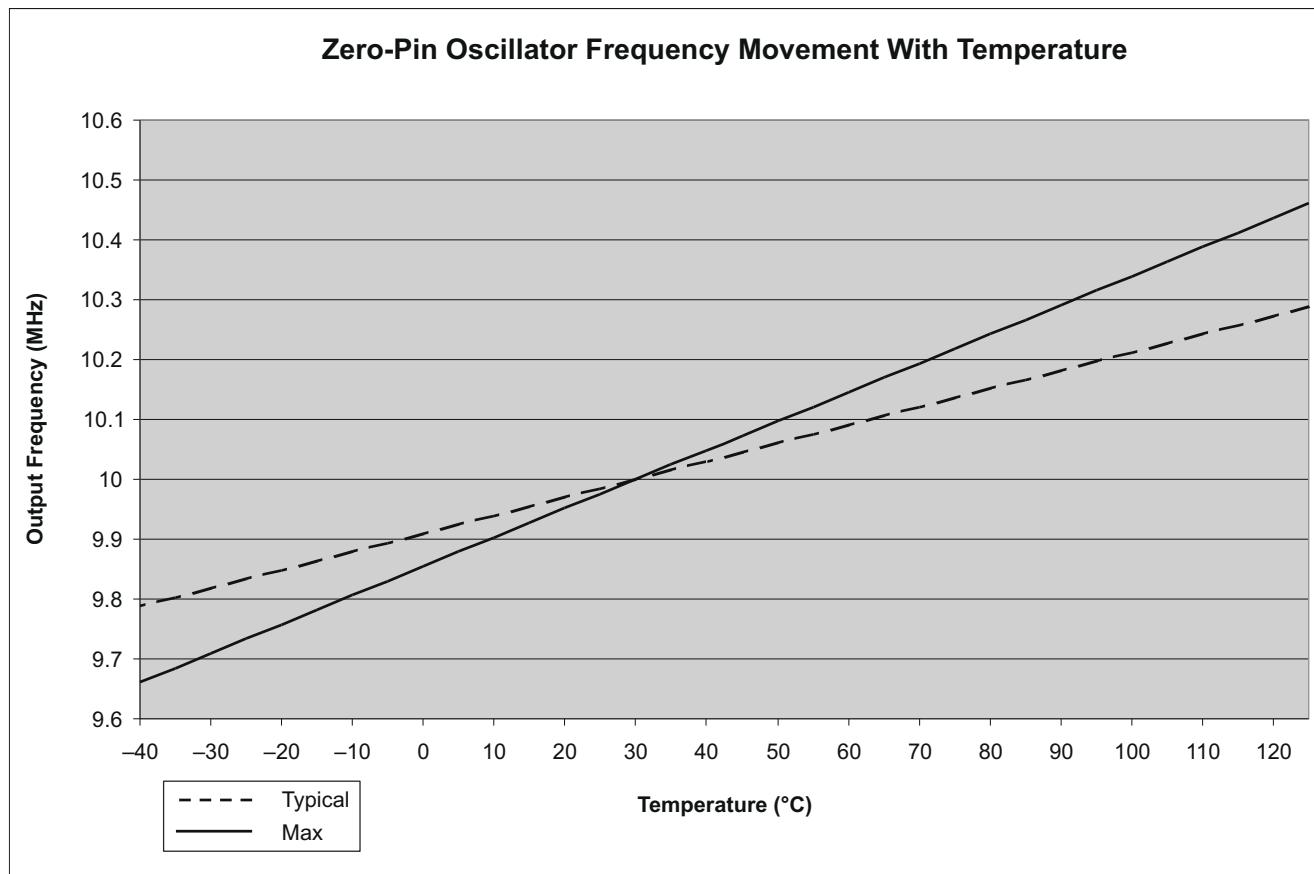

Figure 7-9. Zero-Pin Oscillator Frequency Movement With Temperature
(1) Oscillator frequency will vary over temperature, see Figure 7-9. To compensate for oscillator temperature drift, see the Oscillator Compensation Guide and C2000Ware for C2000 MCUs.
(2) Frequency range is ensured only when VREG is enabled, $V_{REGENZ} = V_{SS}$.
(3) Output frequency of the internal oscillators follows the direction of both the temperature gradient and voltage (V_{DD}) gradient. For example: